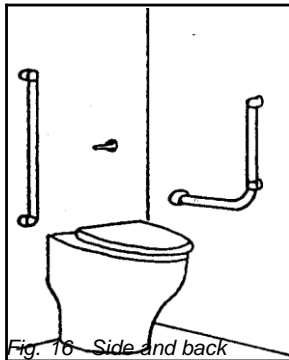

Fig. 16 Side and back mounted bars
- Wall mounted on the back wall behind the toilet (Fig. 16)